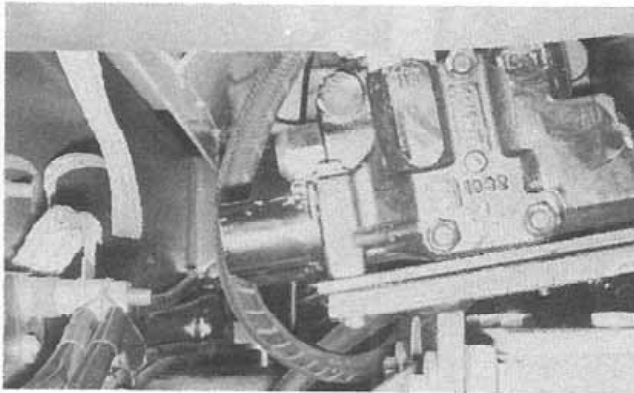

Figure 6:
6. With the transfer case housing and bracket holes aligned, start several capscrews on both sides of the unit to support it, and mount the hydraulic control valve bracket at the same time (Fig. 6). Connect the battery ground cables at the terminal block inside the frame.